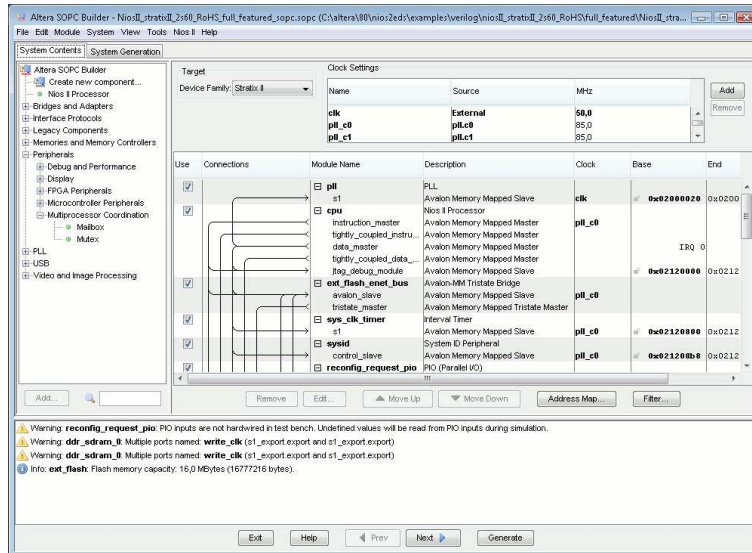

Figure 1.1: The SOPCBuilder windows that appears by opening an Altera project.
4. Open SOPCBuilder by double clicking on the SOPCBuilder block. A window similar to the one showed in Figure 1.1 appears.